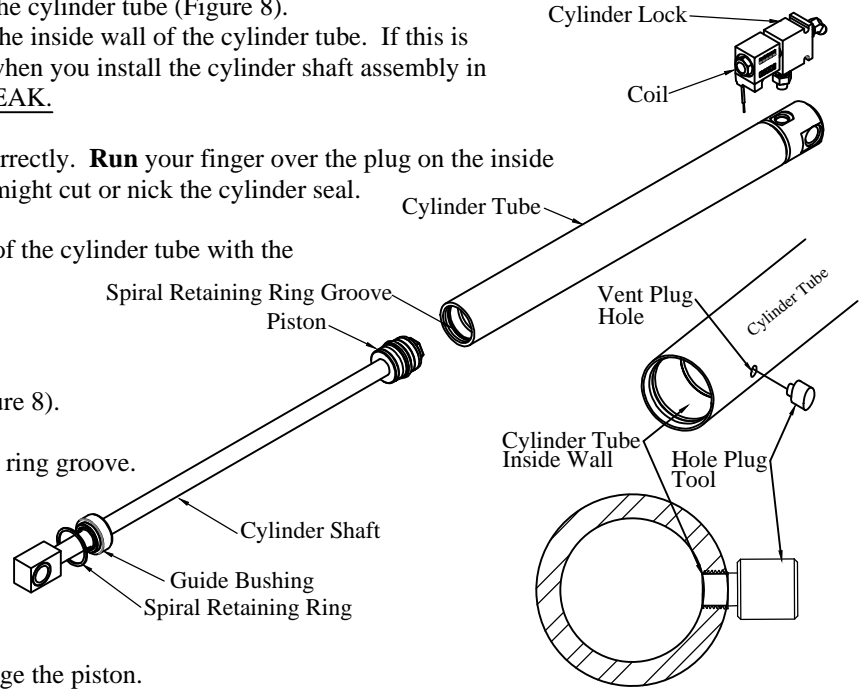

Figure 8: Cylinder assembly.
1. **Install** the hole plug tool into the vent plug hole on the cylinder tube (Figure 8).
4. **Install** the piston into the cylinder tube (Figure 8).
5. **Install** the guide bushing into the cylinder tube (Figure 8).
7. **Install** the cylinder lock on the cylinder (Figure 8).